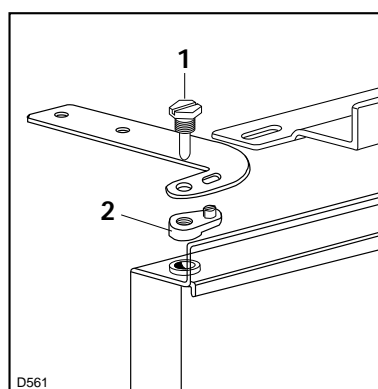
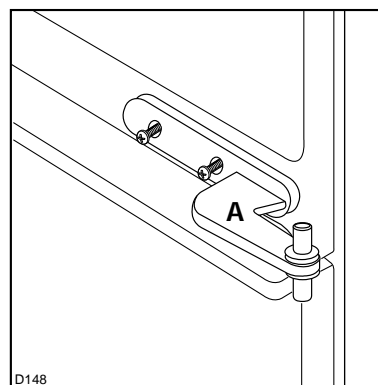
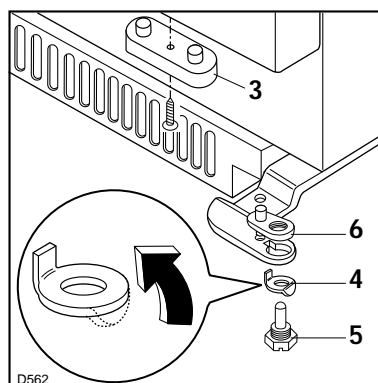
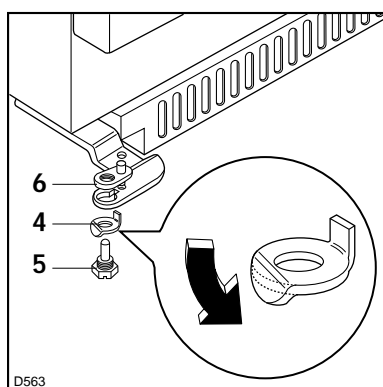

Fig. 1
Fig. 2
Fig. 2a
Fig. 3
Remove the screws (1), the upper and lower pivots (2) and the safety washer (4) from the left-hand side of the appliance (Fig. 1). Next remove the door's top hinge (3-Fig. 2a).
Remove the screws and the upper pivots. Lift off the upper door. Remove the middle hinge (A-Fig. 2) and fix it to the other side, after having removed the little caps which cover the holes and which must be refitted on the opposite side. Replace the upper door and fix the screw and the upper left pivot into place. Straighten the safety washer (4) of the lower right hinge (Fig. 2a). Remove the screw and the pivot (6-Fig. 2a). For safety reasons, bend the safety washer located under the left hinge (Fig. 3), by using a suitable tool (for ex. a screwdriver). Remove the door's top right hinge (3-Fig. 2a).
After having installed the appliance in the appropriate space and having adjusted the opening direction of the doors as required, remove block (3-Fig. 2a) which is fitted on the side opposite the hinge.